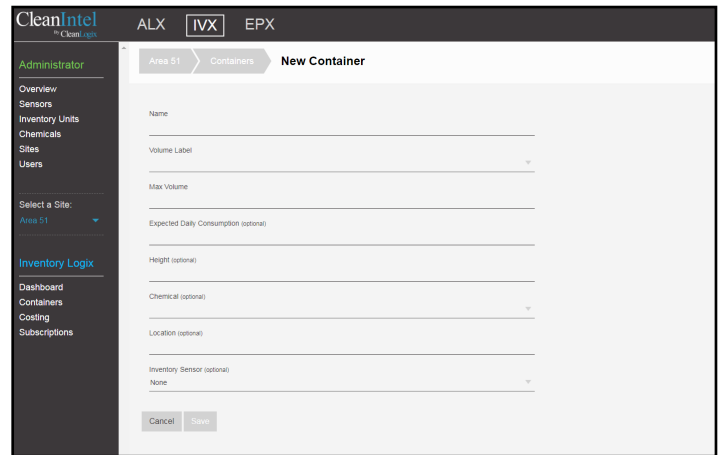

Figure 13.1: Add New Container
- Click the **New+** button to add a new Container and fill out the following [Figure 13.1]: